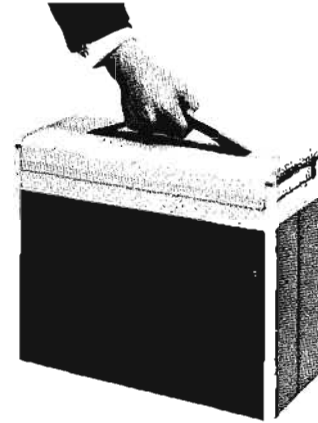

Figure 5. Instrument covers quickly convert full-width cabinets to easily carried portable units.
**Modular enclosure accessories (see Figure 5)**